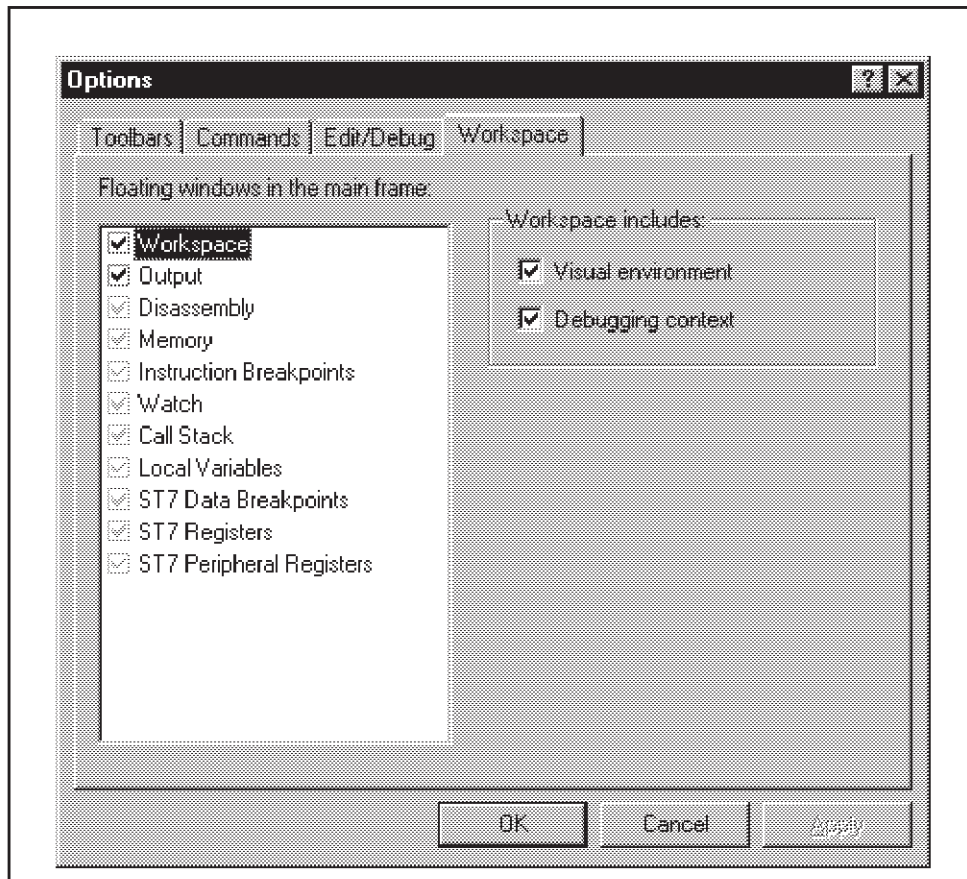

Figure 9: Options window
- 2 In the Options window that opens (see *Figure 9 on page 36*), select the **Workspace** tab.